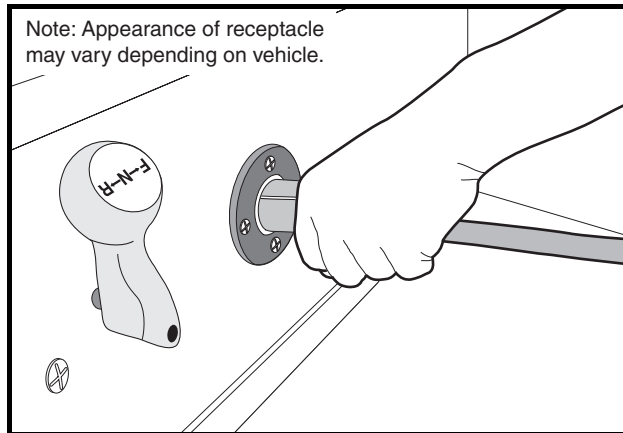
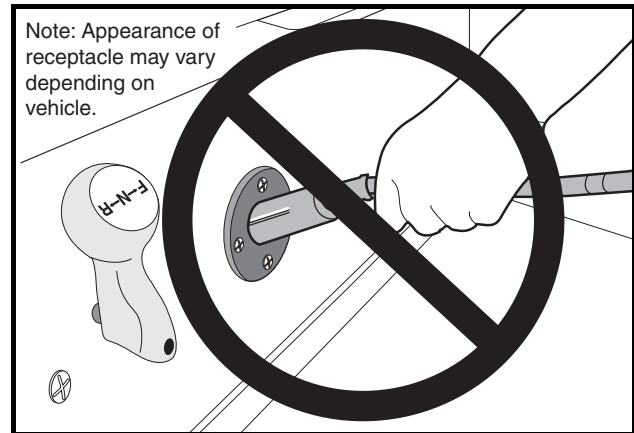

Figure 7-7 Charger Receptacle
Figure 7-8 Incorrect DC Plug Removal
- The battery charger DC plug must be pulled slowly from the receptacle (Figure 7-7, Page 7-9). Jerking or pulling the DC cord out quickly could cause arcing that could damage the plug and receptacle and could cause batteries to explode (Figure 7-8, Page 7-9).
- **The charger plug must be pulled slowly from the receptacle (Figure 7-7, Page 7-9). Jerking or pulling the DC cord out quickly could cause arcing and burning that could damage the plug and receptacle and could cause batteries to explode (Figure 7-8, Page 7-9).**
- Do not rock or bend the plug. To connect the charger plug to the vehicle receptacle, grasp the plug handle and push the plug straight into the receptacle (Figure 7-7, Page 7-9).
- Do not pull on the DC cord (Figure 7-8, Page 7-9). Do not twist, rock or bend the plug. To disconnect the charger plug from the vehicle receptacle, grasp the plug by the handle and pull the plug straight out of the receptacle.
2. Connect the charger DC plug to the vehicle charger receptacle located on the seat support panel (Figure 7-7, Page 7-9). The charger will activate automatically within 2 to 15 seconds after the DC plug is connected. See following WARNING.
- Do not rock or bend the DC plug. To connect the charger plug to the vehicle receptacle, grasp the plug handle and push the plug straight into the receptacle (Figure 7-7, Page 7-9).